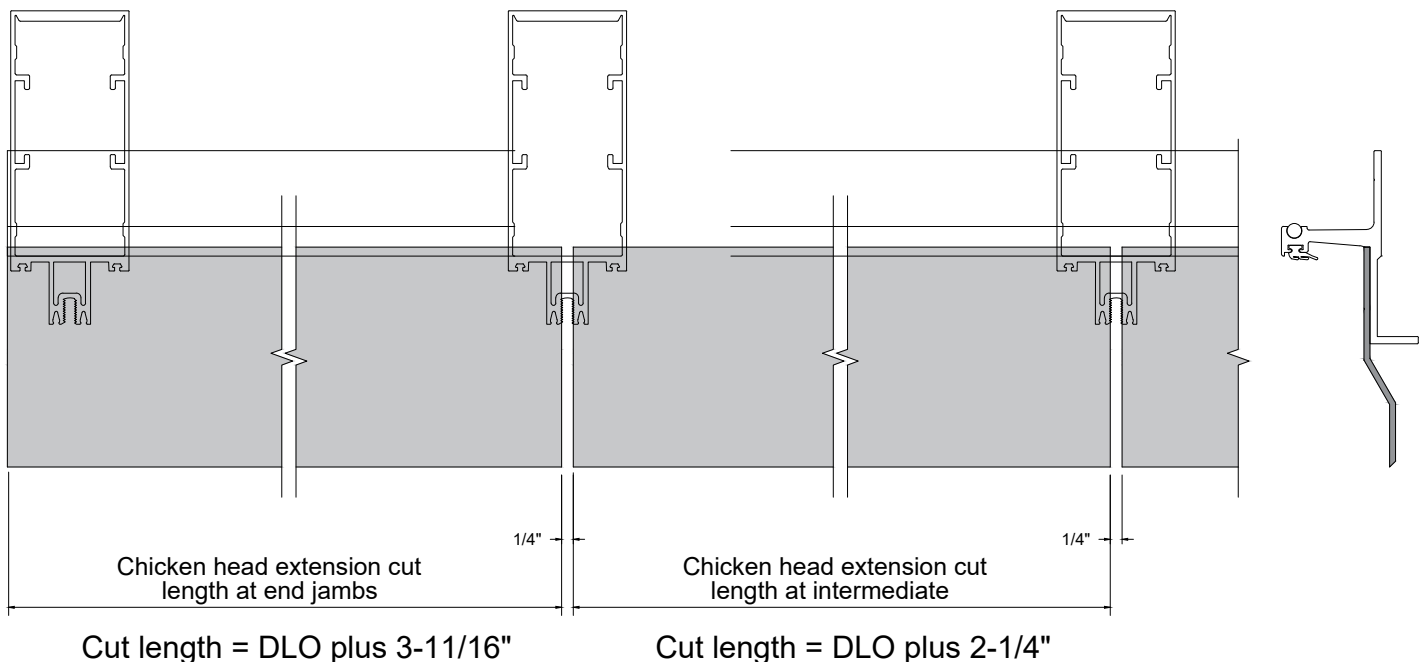

Fig. 91.1
Step 1: Refer to Fig. 91.1 below for cut length calculator for chicken head extender E039CA.